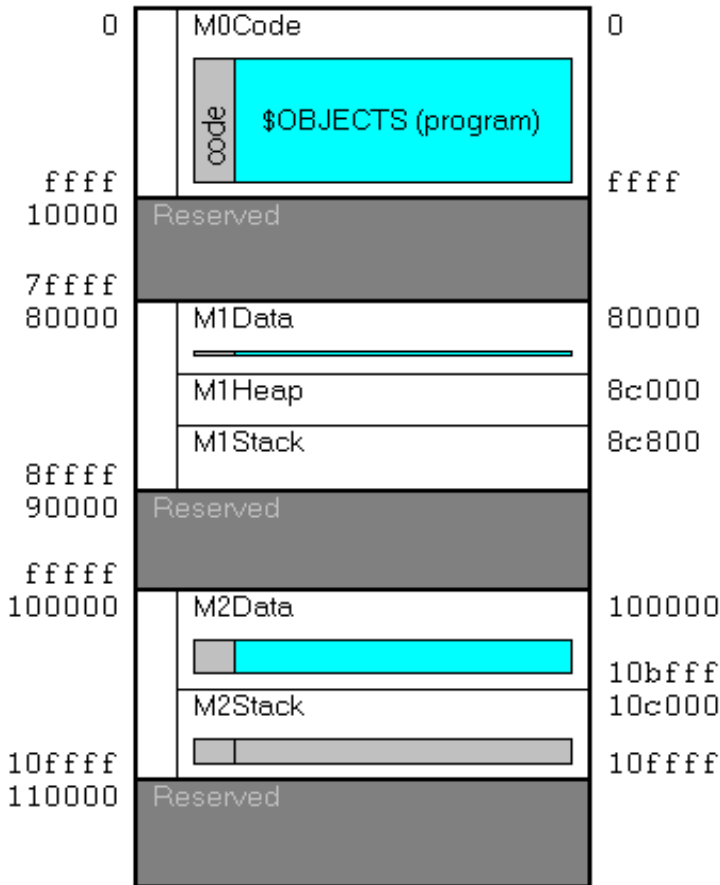
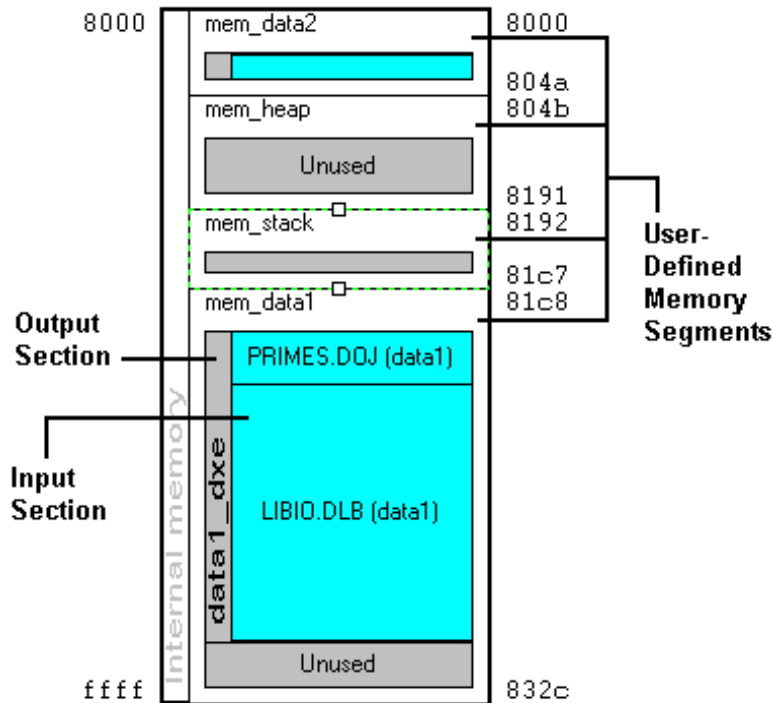
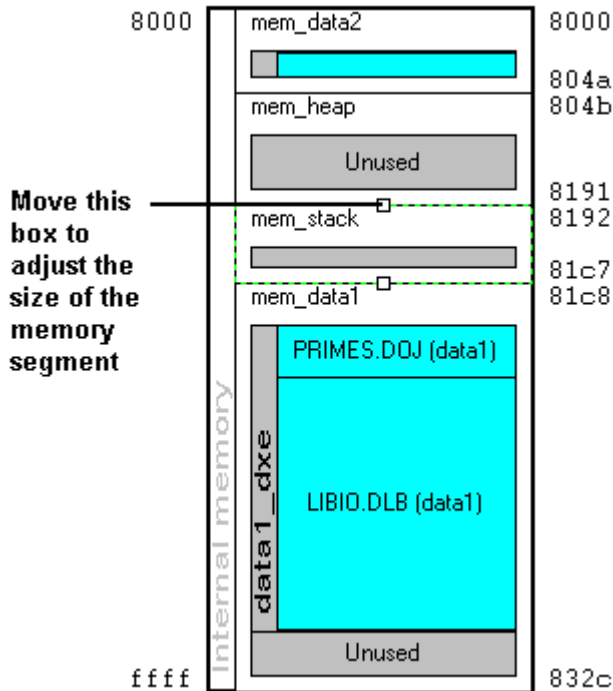

Figure 4-17. Graphical Memory Map Representation
Figure 4-18. Viewing Sections and Segments in Memory Map
Figure 4-19. Adjusting the Size of a Memory Segment
- **Graphical Memory Map** – Displays the memory map in graphical blocks (see Figure 4-17 on page 4-24)
View the memory map from two perspectives: pre-link view and post-link view (see “Specifying Pre- and Post-Link Memory Map View” on page 4-27). Figure 4-17, Figure 4-18 and Figure 4-19 show examples of a graphical memory map representations.